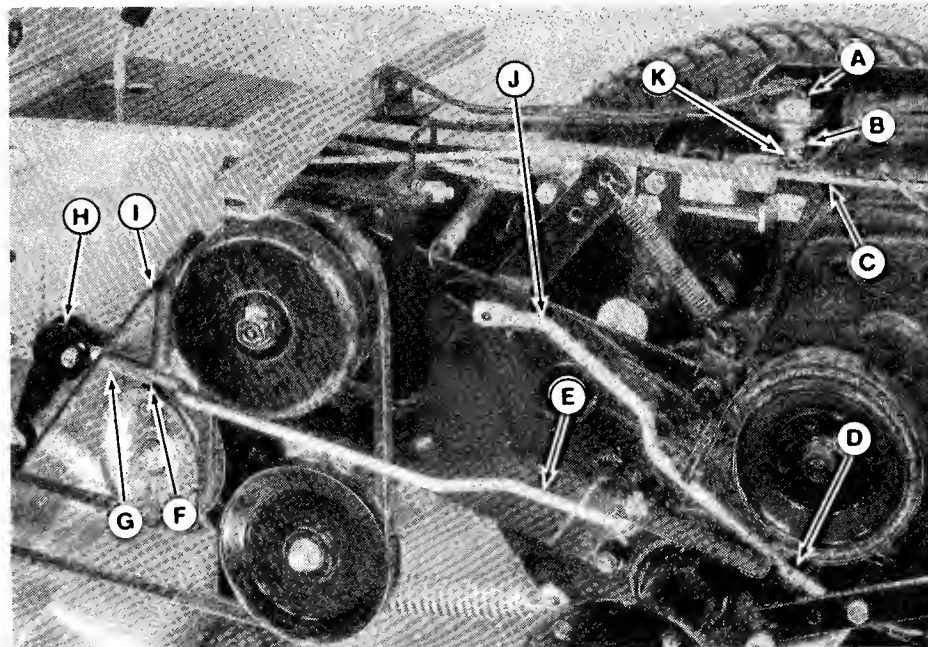

Figure 24. Semi-Automatic
1. To adjust parking brake, loosen the jam nut (F, figure 24) at parking brake rod end. Rotate the parking brake lever (H) clockwise until it is tight and pulled up against fender as shown. Operate the lever to see if it is too tight or too loose. It should be tight against fender when set but not too tight to operate. When proper adjustment is made, tighten the jam nut.